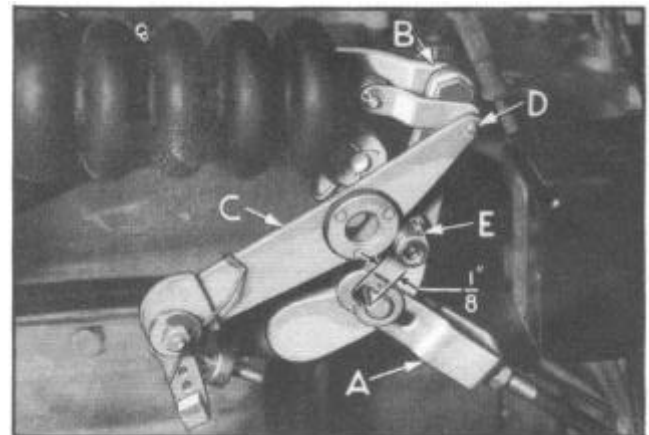

Figure 16--Bell Crank Yoke Adjustments
With the engine stopped and the power cylinder piston rod (B), Figure 16, in its extreme rear position, remove the valve lever assembly (C). This is done by removing the cotter pin at (E) and the hairpin (D) at the valve